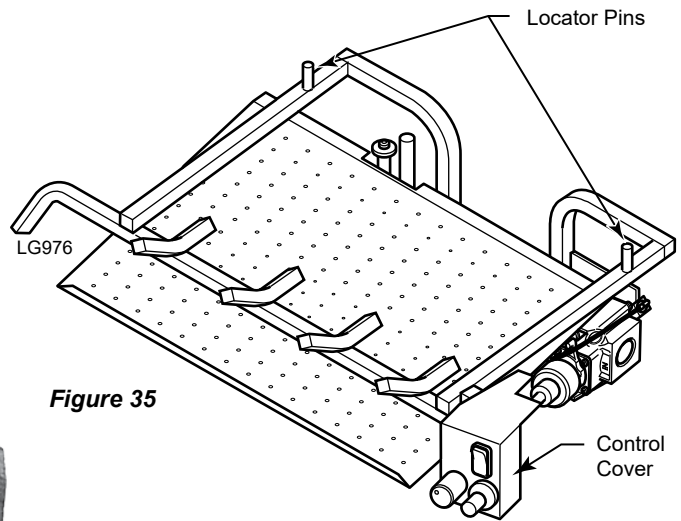

Figure 35
1. Place back log (#1) on back of base aligning two (2) pins on base with holes in bottom of log. *Figures 35 and 36*